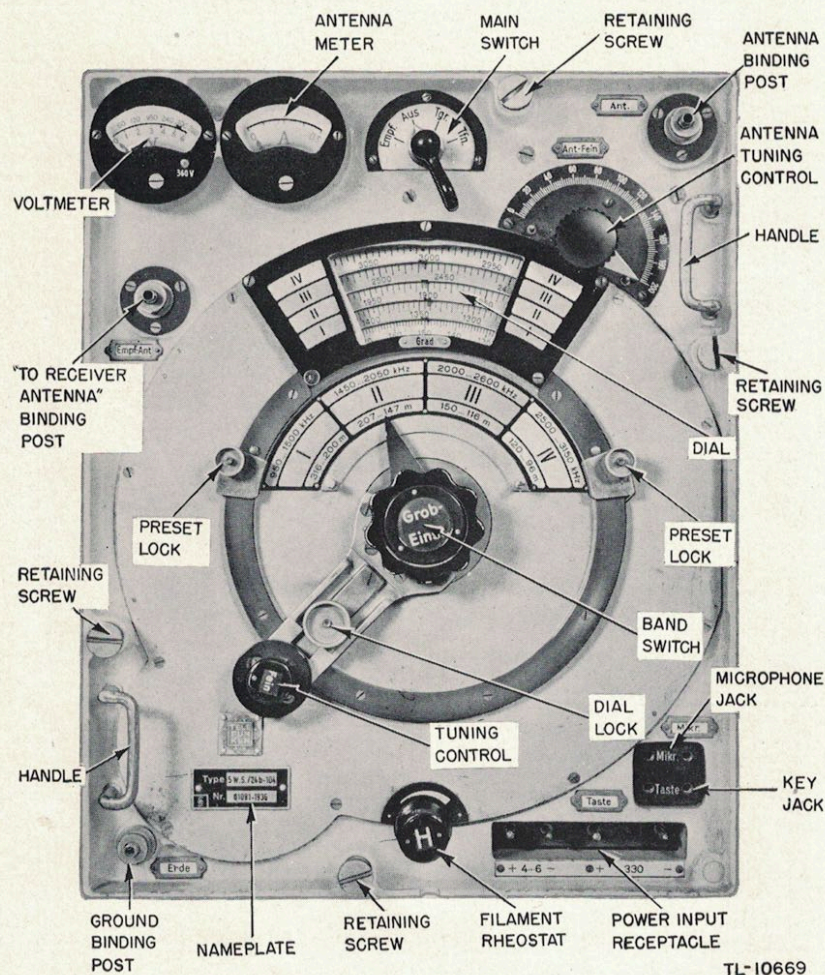
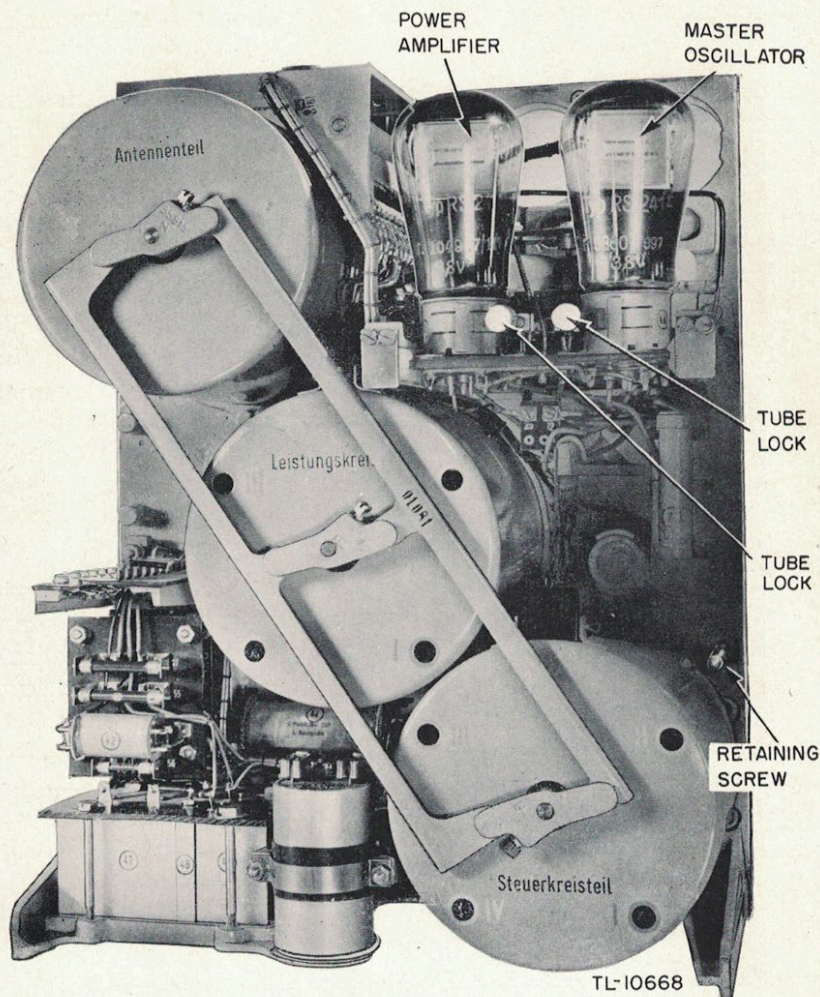

Figure 2. German radio transmitter 5 W.S./24b-104, front view.
Figure 9. German radio transmitter 5 W.S./24b-104 removed from case, rear view.
3. CONTROLS. The controls, meters, and jacks shown on the front panel of the **5 W.S.** (fig. 2) are described briefly below.
a. Preparation. Remove the set from the case by loosening the four retaining screws (encircled in red). Pull the set forward with the aid of the handles on the front panel (fig. 2).
- (1) Check the tubes, and be sure that they are seated firmly in their sockets.
- (2) Securely tighten the tube locks (fig. 9).
- (3) Inspect the wiring in the set for broken connections.
- (4) Replace the set in the case and tighten the retaining screws.
9. PRESET FREQUENCIES. In order to change more easily and quickly between two preset frequencies, both positions of the **Fein** (tuning control) knob are locked by means of clamping devices (fig. 2). When changing frequency the **Fein** control must be changed from one tuning position to the other, and the control marked **Grob-Einst.** (band switch) set. Check the control marked **Ant.-Fein** (antenna tuning) for maximum output on the **A** (antenna meter) for each change in frequency.
b. Preventing Failures. (1) Make sure that all connections are made correctly. Check all the installation steps described in paragraph 5. Make certain that the transmitting antenna is connected to the **Ant.** (antenna) binding post and not to the **Empf.-Ant.** ("to receiver antenna") binding post.
(3) If the r-f output of the set is low, the cause may be defective tubes. To replace the tubes it is necessary to remove the set from the case. Loosen the four retaining screws (fig. 2) and pull the set forward by the handles on the front panel of the set. Figure 9 shows the rear view of the **5 W.S.** after it has been removed from the case. Loosen the tube locks, remove the tubes, and replace with known good tubes. Secure the tube locks and replace the set in the case. Tighten the retaining screws.
(4) If the simple procedures given above do not make the set operate, send it back to a signal depot. The components may be used to repair other sets. **WE CAN USE THE GERMAN PARTS TO FIX OUR OWN AS WELL AS GERMAN RADIO SETS.**